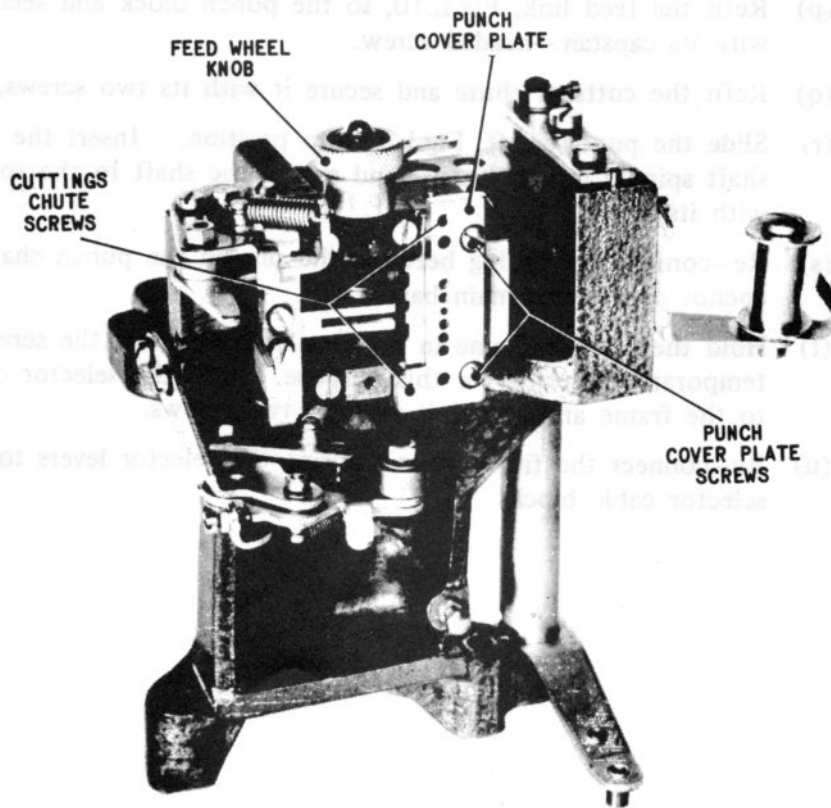

FIG.L.2 PERFORATOR UNIT
- (j) Remove the two screws securing the punch cover plate, Fig L.2, and take off:—
- (iii) Turn the punch block over and refit the four die plates, tape guide plate, two die plates and the punch cover plate, Fig.L.2. Secure the cover plate with its two screws.
- (q) Refit the cuttings chute and secure it with its two screws, Fig.L.2.